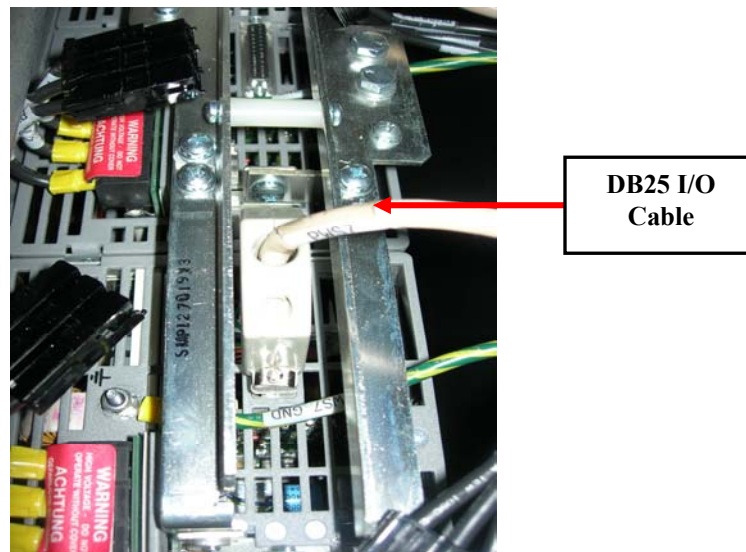

Figure 29 DB25 I/O Serial Connector Cable Location
11. Remove the three (3) DB25 I/O serial connector cables from the power supply. The cable is secured by two (2) micro flat screws. (Refer to Figure 29.)